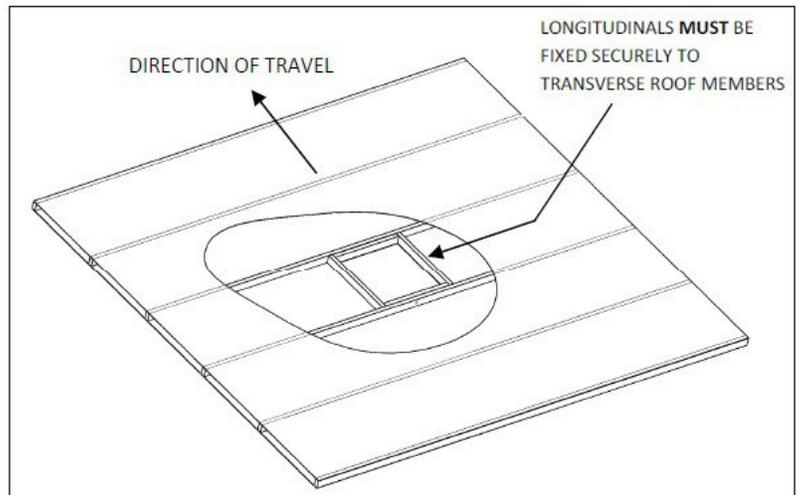
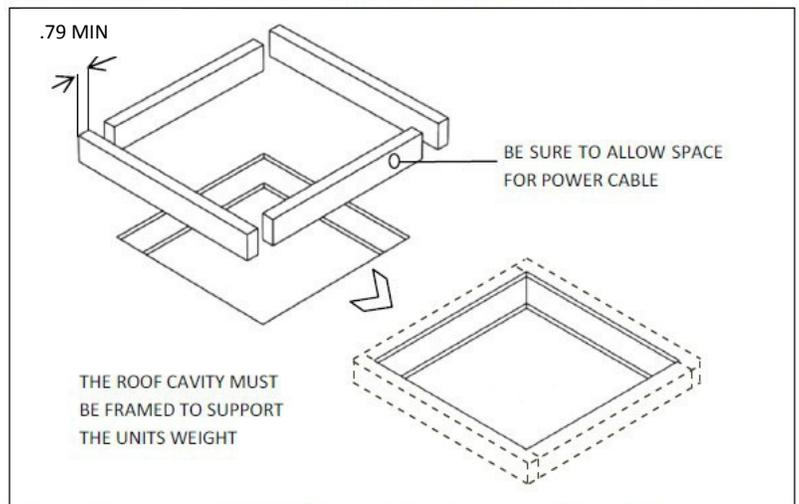

Fig 3: Shows an ideal roof structure with strong longitudinals and a 14' hole boxed
Fig 4: The roof cavity **MUST** be boxed with timber to provide a solid structure
- The square hole in the roof (356 x 356mm, 14" x 14") **MUST** be boxed up with minimum 3/4 inch square timber to provide a structure strong enough to withstand the compression of the installation bolts. This is also to ensure that air is not drawn from the roof cavity (Fig 3 & 4). Remember to leave access for wiring.
- Longitudinals **MUST** be fixed securely to the transverse roof members to transfer load (see Fig 3).
- Hold the clear strain relief cover with bottom facing upward as shown in Figure 3.
- Lay wire into locator slots, making sure the black wire is placed into the polarization slot as shown in Figure 3.
- Press the cable sheath into the integral strain relief slot as shown in Figure 3. Trimming of ground wire and possibly others will be necessary. Wires must not extend beyond the locators as shown in Figure 4!
- While holding the strain relief cover, position the housing's hinge posts into the hinge slots and press down until both lock into place as shown in Figure 4.